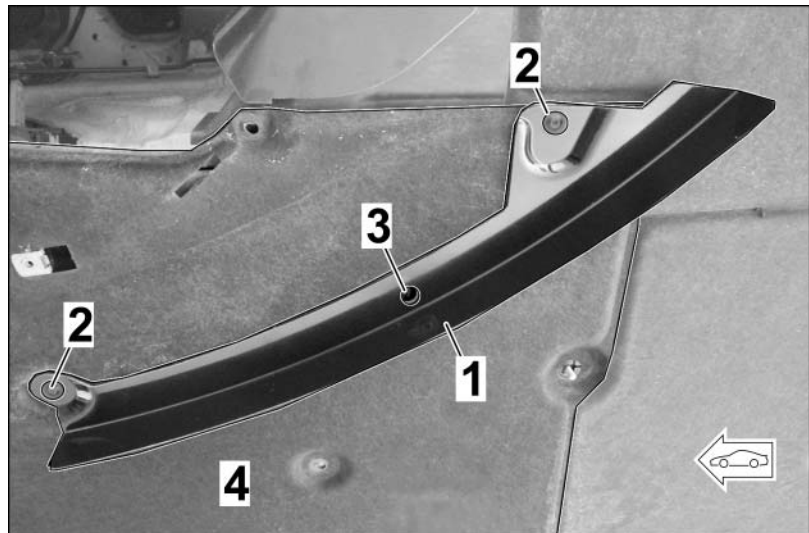

Figure 34
- 5.2.1 Mount the respective air control element (inside) with screws (2 pcs.) at the existing fastening points (front/rear) on the underbody cover (front) on the corresponding side (left/right) (⇒ *Figure 34*).